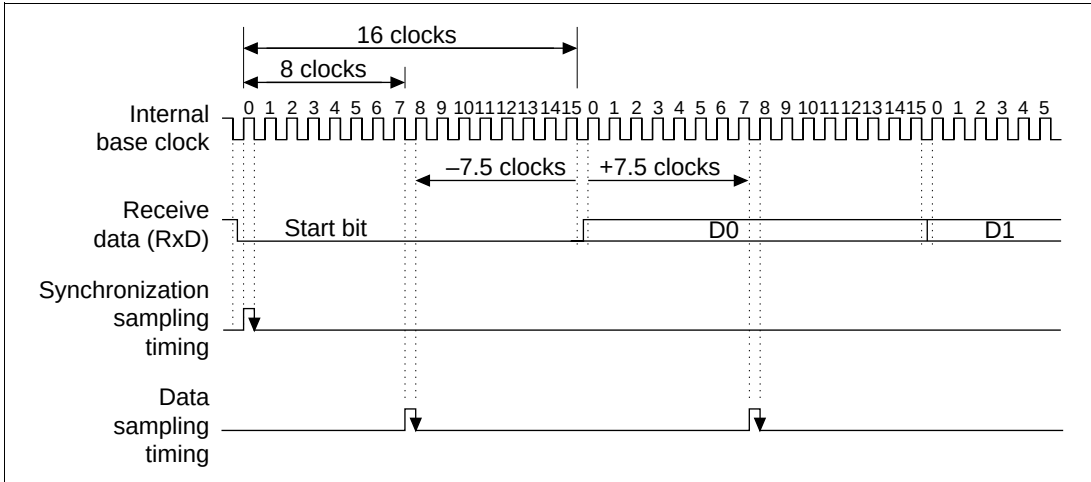

**Figure 13.21 Receive Data Sampling Timing in Asynchronous Mode**
**Sending a Break Signal:** When TE is cleared to 0 the TxD pin becomes an I/O port, the level and direction (input or output) of which are determined by the data register (DR) of the I/O port and the control register (CR) of the PFC. This feature can be used to send a break signal. The DR value substitutes for the mark state until the PFC setting is performed. The DR bits should therefore be set as an output port that outputs 1 beforehand. To send a break signal during serial transmission, clear the DR bit to 0, and select output port as the TxD pin function by the PFC. When TE is cleared to 0, the transmitter is initialized, regardless of its current state.
**Receive Data Sampling Timing and Receive Margin in Asynchronous Mode:** In asynchronous mode, the SCI operates on a base clock of 16 times the bit rate frequency. In receiving, the SCI synchronizes internally with the falling edge of the start bit, which it samples on the base clock. Receive data is latched on the rising edge of the eighth base clock pulse. See figure 13.21.